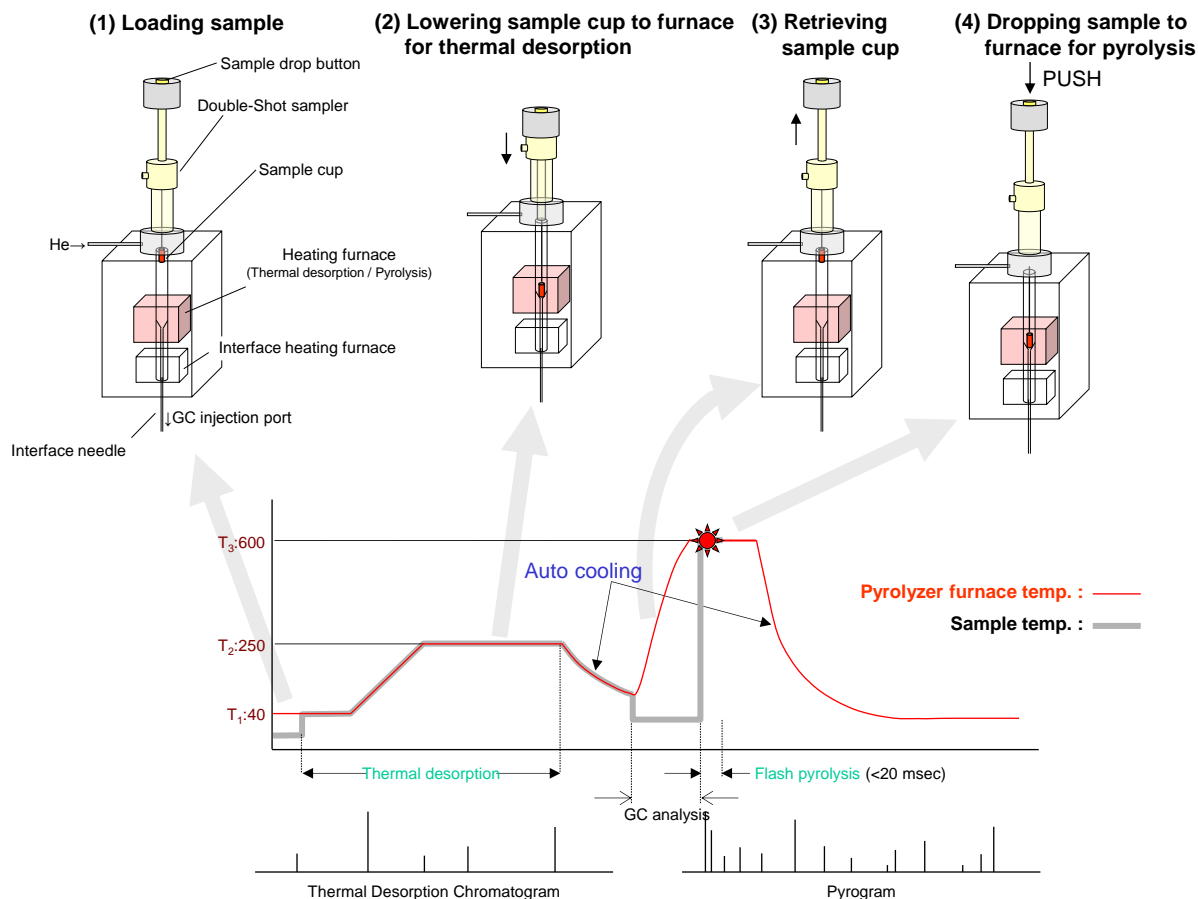

Fig. 1 Operations in Double-Shot Technique and Temperature / Chromatogram relationship
In the double-shot technique, selective thermal desorption of volatile components by programmed heating of a polymer sample is performed, followed by pyrolysis of the sample with the single-shot technique, thus providing a deferent set of information from a single polymer sample. Fig. 1 shows the sequence of operation in double-shot technique. (1) a sample cup is mounted on a double-shot sampler, which can move up and down, (2) the double-shot sampler is brought down into the heating furnace to perform thermal desorption under the temperature condition determined from the evolved gas curve1). (3) the sampler is then pulled up to the stand-by position at which temperature is room temperature. (4) volatile components produced from the thermal desorption is analyzed by GC. During this period, the furnace is heated to a higher temperature for instant pyrolysis. Upon the completion of the thermal desorption and GC issues "READY" signal, the sample is dropped to the pyrolysis furnace by pressing the sample drop button to perform instant pyrolysis.